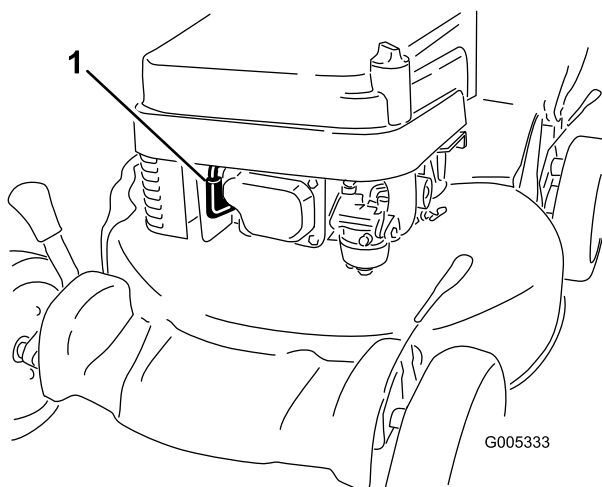

Figure 11
1. Connect the wire to the spark plug (Figure 11).